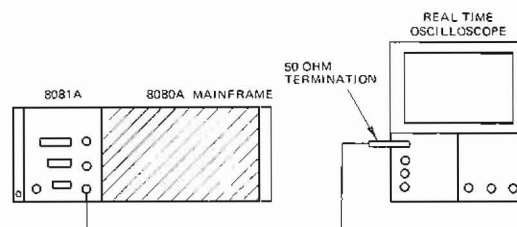

Figure 4-5. Manual Function Test Setup
1. Set up the equipment as shown in figure 4-5 and set the controls as follows: